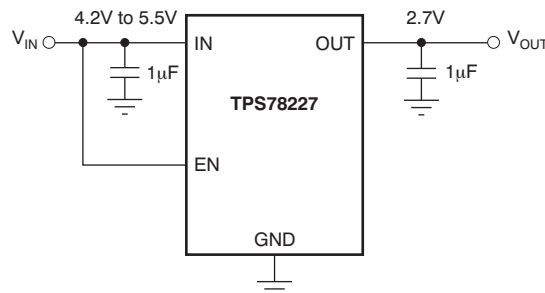

Figure 22. Circuit Showing EN Tied High When Shutdown Capability Is Not Required
The enable pin (EN) is active high and is compatible with standard and low-voltage CMOS levels. When shutdown capability is not required, EN should be connected to the IN pin, as shown in Figure 22. The TPS782 series, with internal active output pulldown circuitry, discharges the output to within 5% V_{OUT} with a time (t) shown in Equation 1: